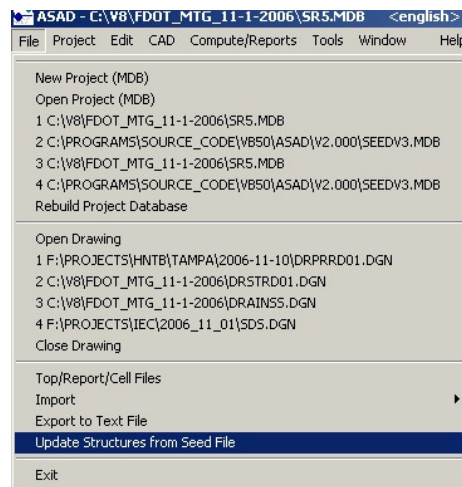

Figure 1.3
ASADv3 uses the same basic database structure as version 2 which makes the database backwards compatible with version 2. When a version 2 database (*.mdb) is first opened by ASAD version 3, there will be new fields inserted into the database. Most of these fields are specific to the Structure Definitions. Even though the space for the new fields has been established in the database, the actual data has not been inserted into these fields. For example; HDR_TEXT1, HDR_TEXT2, HDR_TEXT3, and HDR_TEXT4 (column header text used in summary of drainage structures) are just a few of the new fields that are created in the database. These fields, as well as others, have to be ‘filled in’ by the user. This can be accomplished by (1) *manually* keying in the data, for each structure to be updated, using the pulldown: Edit>Structure Defintions or (2) *semi-automatically* by copying the data from the version 3 seed database (seedv3.mdb) using the pulldown: ‘File>Update Structures from Seed File’ (see figure 1.3).